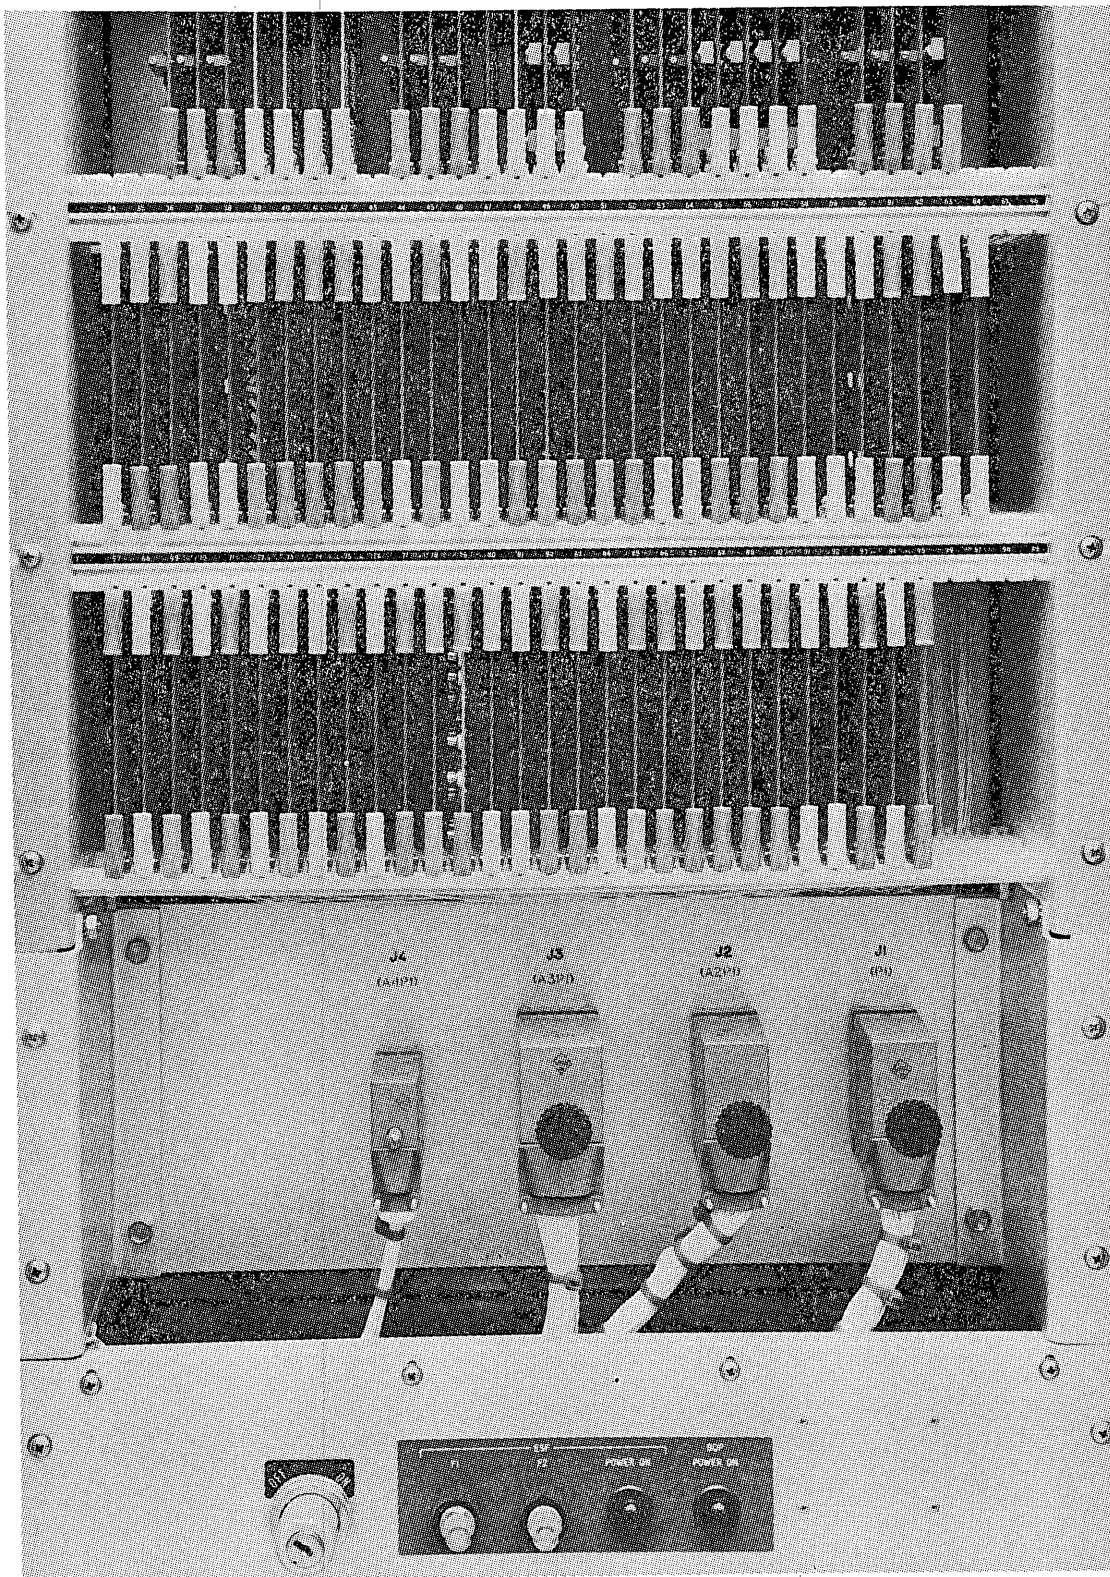

Figure 6. PC Card File
The card file assembly (C), as shown in more detail in figure 6, contains a three-tiered printed circuit card file which houses all PC cards and a lower connector panel containing jacks which mate with connectorized cables from the balance of the cabinet. Each jack and plug is uniquely keyed to ensure correct mating. The card file has card guides and positive locking ejectors for installing and securing PC cards into the card file slots, and PC card edge connectors. All card file wiring is by wire wrapping of PC card edge connector pins and connector jack pins. The PC cards contain the solid-state electronic components for the LSS panel system. The card file assembly contains 85 PC cards representing 18 different PC card types. Each PC card type is uniquely keyed with the card edge connectors for that type, thus preventing incorrect placement of PC cards. For part numbers, quantities, and locations of all printed circuit cards refer to Vitro drawing 2699-1015, Card File Assembly.